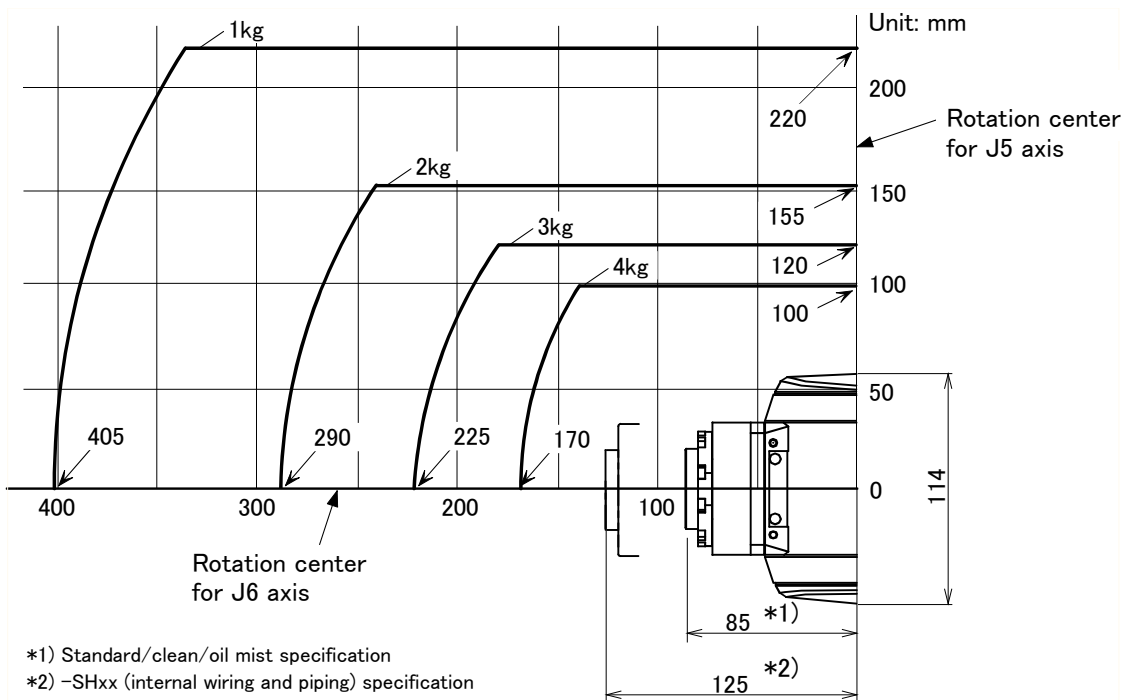
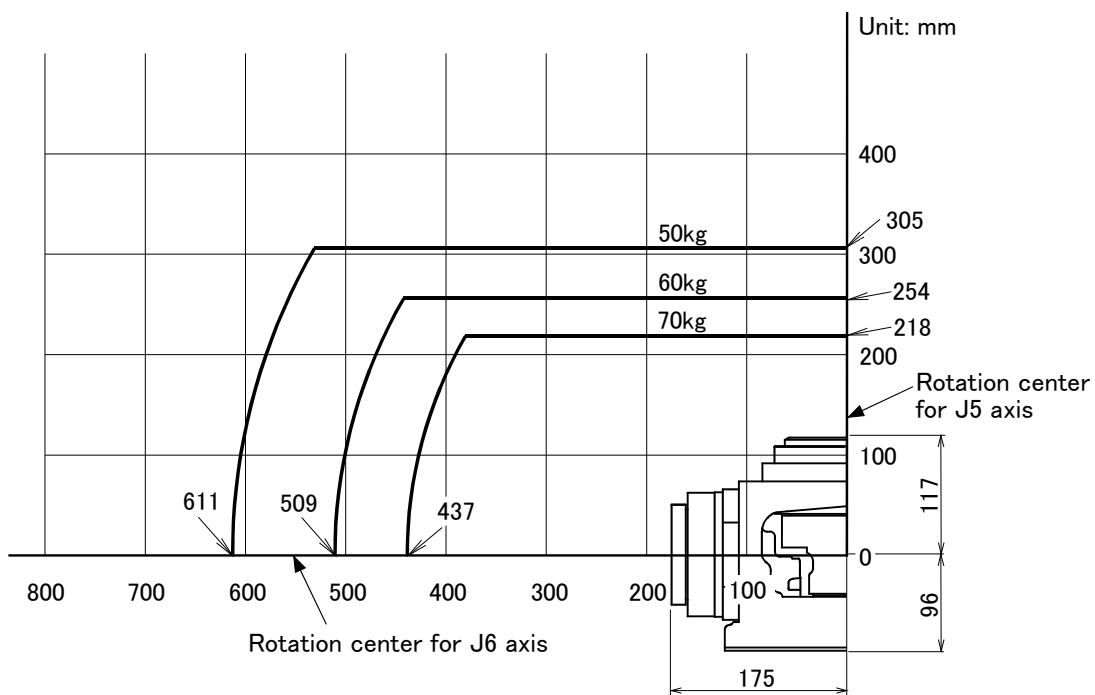

Fig.2-1 : Position of center of gravity for loads (for loads with comparatively small volume): RV-4F/4FL/4FJL
Fig.2-7 : Position of center of gravity for loads (for loads with comparatively small volume): RV-70F
- (1) The tooling should have the value less or equal than the smaller of the tolerable inertia and the tolerable moment found in Page 16, "2.1.1 Basic specifications".
- (2) Fig. 2-1 to Fig. 2-7 shows the distribution dimensions for the center of gravity in the case where the volume of the load is relatively small. Use this figure as a reference when designing the tooling.
- (3) Even if the load is force, not the mass, design the tooling so that moment does not exceed the allowable moment. Refer to Page 16, "2.1 Standard specifications" for details of allowable moment value.